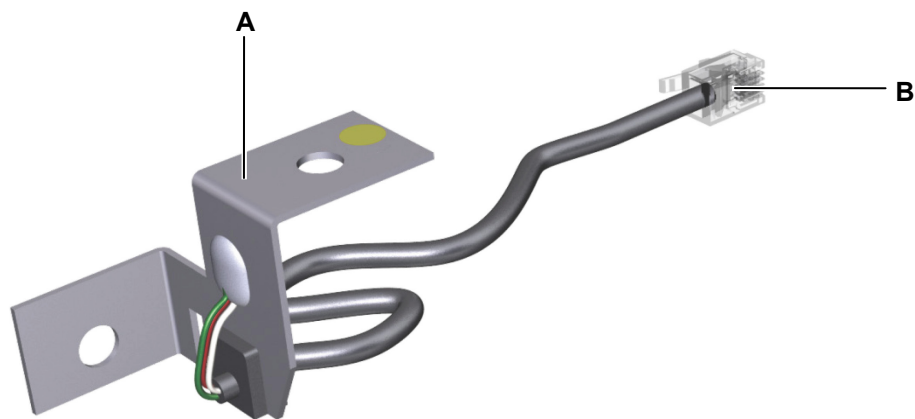

Figure 41 Sensor
- ▶ The sensor is attached to both the table frame and the tabletop. The contact point with the tabletop is marked with a yellow dot, as shown in Figure 41.